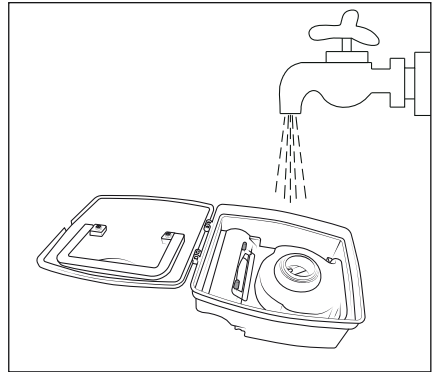

Fig. 10
- 5) Clean the dust container 12 with cold or luke-warm water (see Fig. 10). Allow the dust container 12 to air dry completely before inserting it back into the appliance.